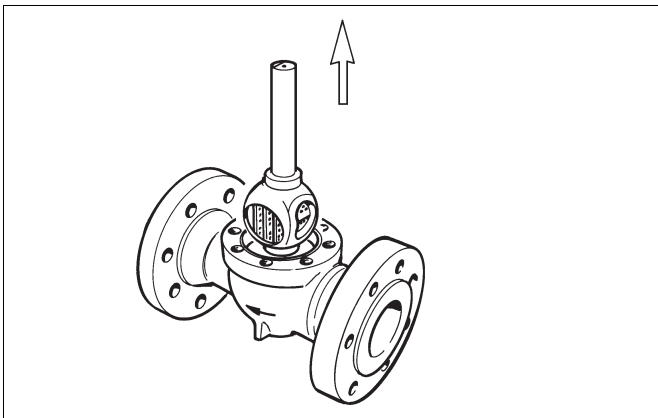

Fig. 12 Lifting the ball from the body
- ❑ Lift the ball. Check that the unbroken side of the ball does not rest on the seat, see Fig. 12.